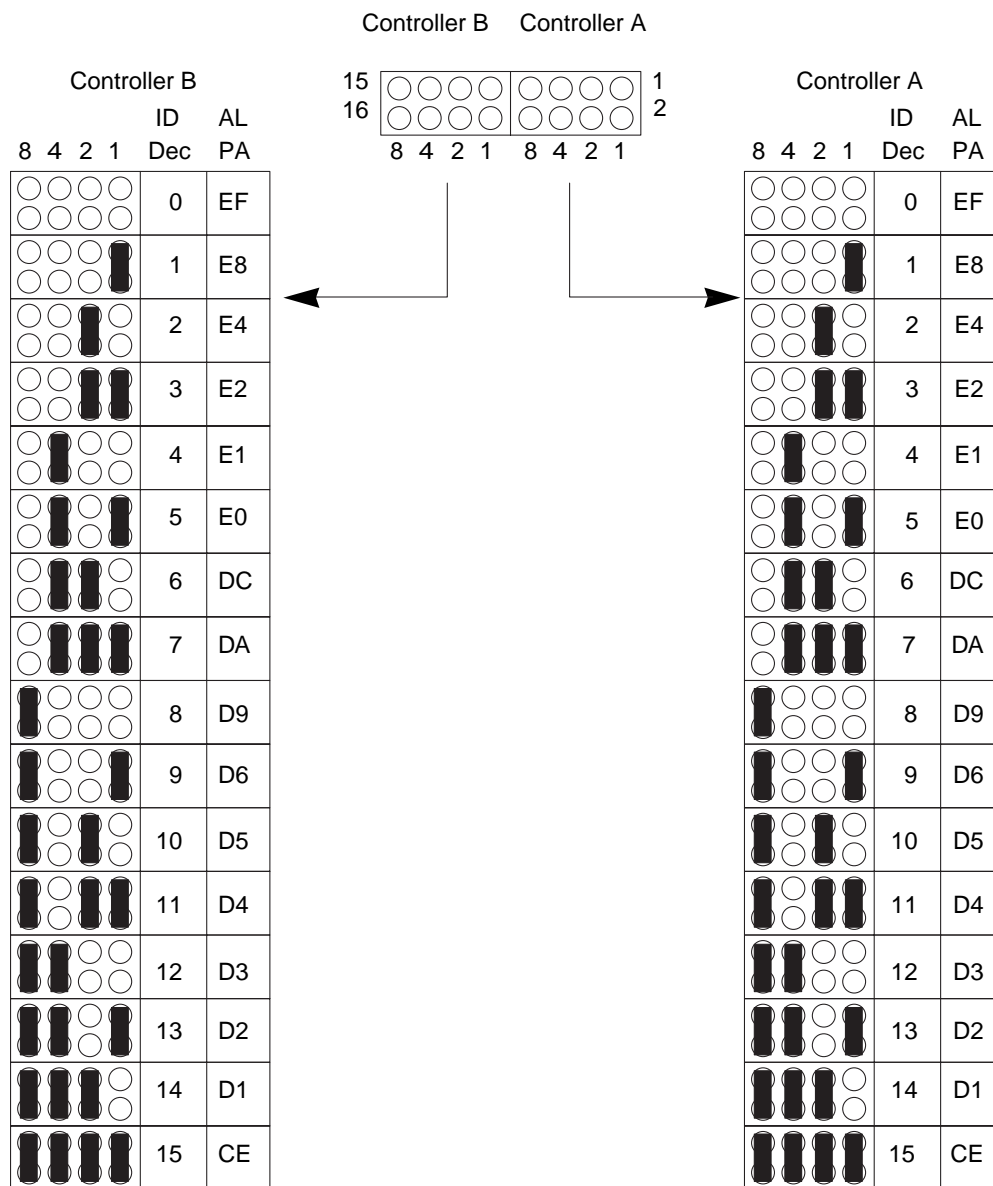

FIGURE 2-15 Sun StorEdge A3500 FC-AL ID Settings
2. **Locate the 16 pins on the rear of the FC-AL controller module** (FIGURE 2-15).
3. **Install the jumpers on the pins as shown in** FIGURE 2-15.